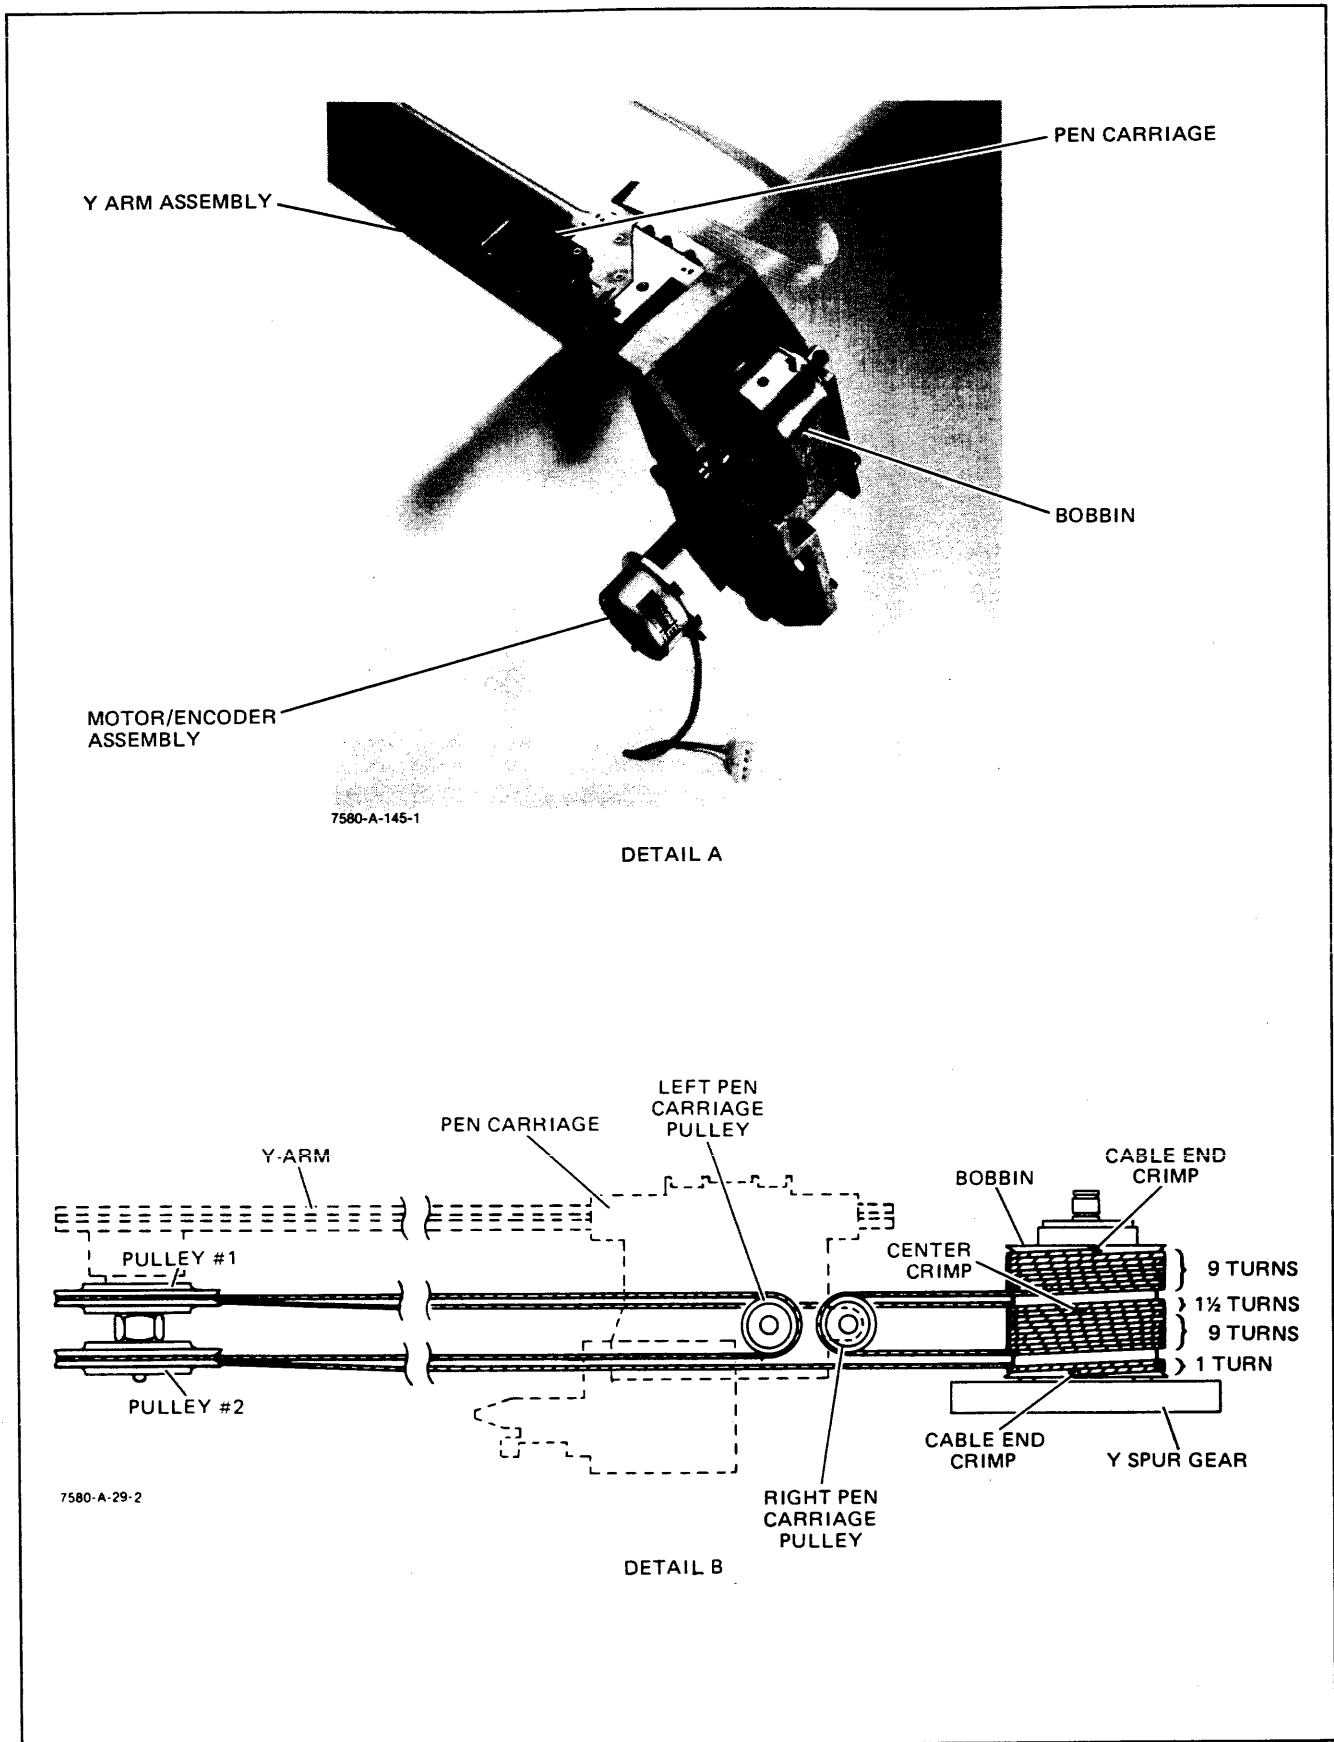

Figure 6-9. Y Drive Cable Stringing Diagram
6-147. The Y drive cable stringing diagram is shown in Figure 6-9, Detail B. To string the Y drive cable, proceed as follows:
- a. Remove the Y arm assembly from the plotter and position it with the bobbin to the right facing you. To prevent damaging the motor/encoder assembly, set the Y arm assembly on a flat surface with the right end projecting off the edge of the surface. See Figure 6-9, Detail A.
- d. Using the short length, wind nine (9) turns from the center crimp toward the Y spur gear end of the bobbin. Tape cable to prevent unwinding.